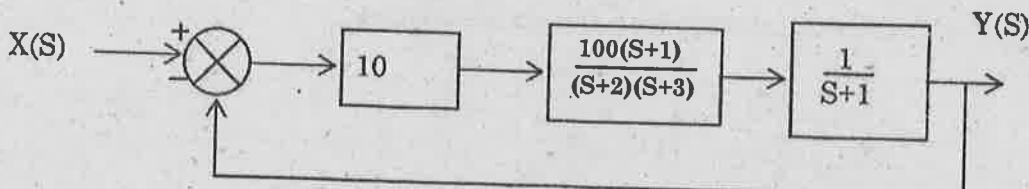

Fig. 12(a)(i)
12. (a) (i) For the system shown in figure 12(a)(i) find the error using dynamic error coefficient method for input $r(t) = 5 + 4t + 7t^2$.